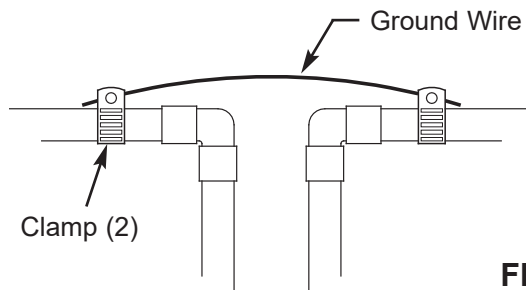

FIG. 11
- Install a #4 copper wire across the removed section of main water pipe, securely clamping it at both ends (See Figure 11) - parts not included.